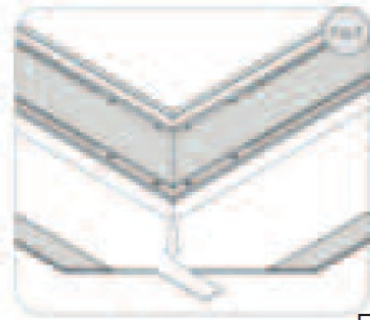
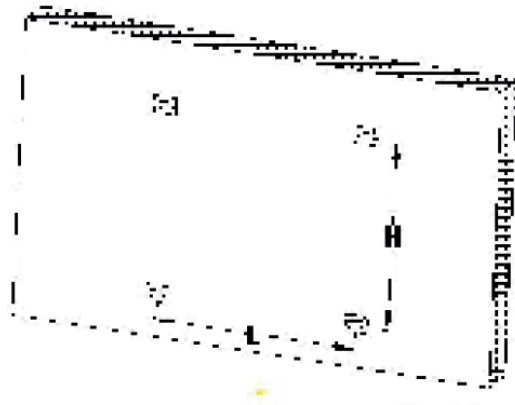

Fig 10
Fig 15.
2. Measure the distance H and L (acc. to fig. 10) and transfer this onto the wall (Fig. 15).
3. Mount the mounting bracket (C) with the self-tapping screws (F) and the plastic dowels (K) in a load-bearing surface. Please use suitable mounting material for your